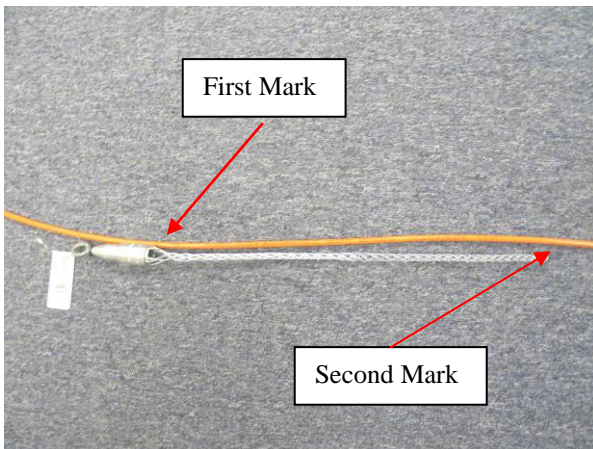

Figure 8: Measuring Pulling Grip from First Mark
Step 2: The length of the grip should be measured from the first mark and the cable marked (second mark) to show the length of the pulling grip (See Figure 8).